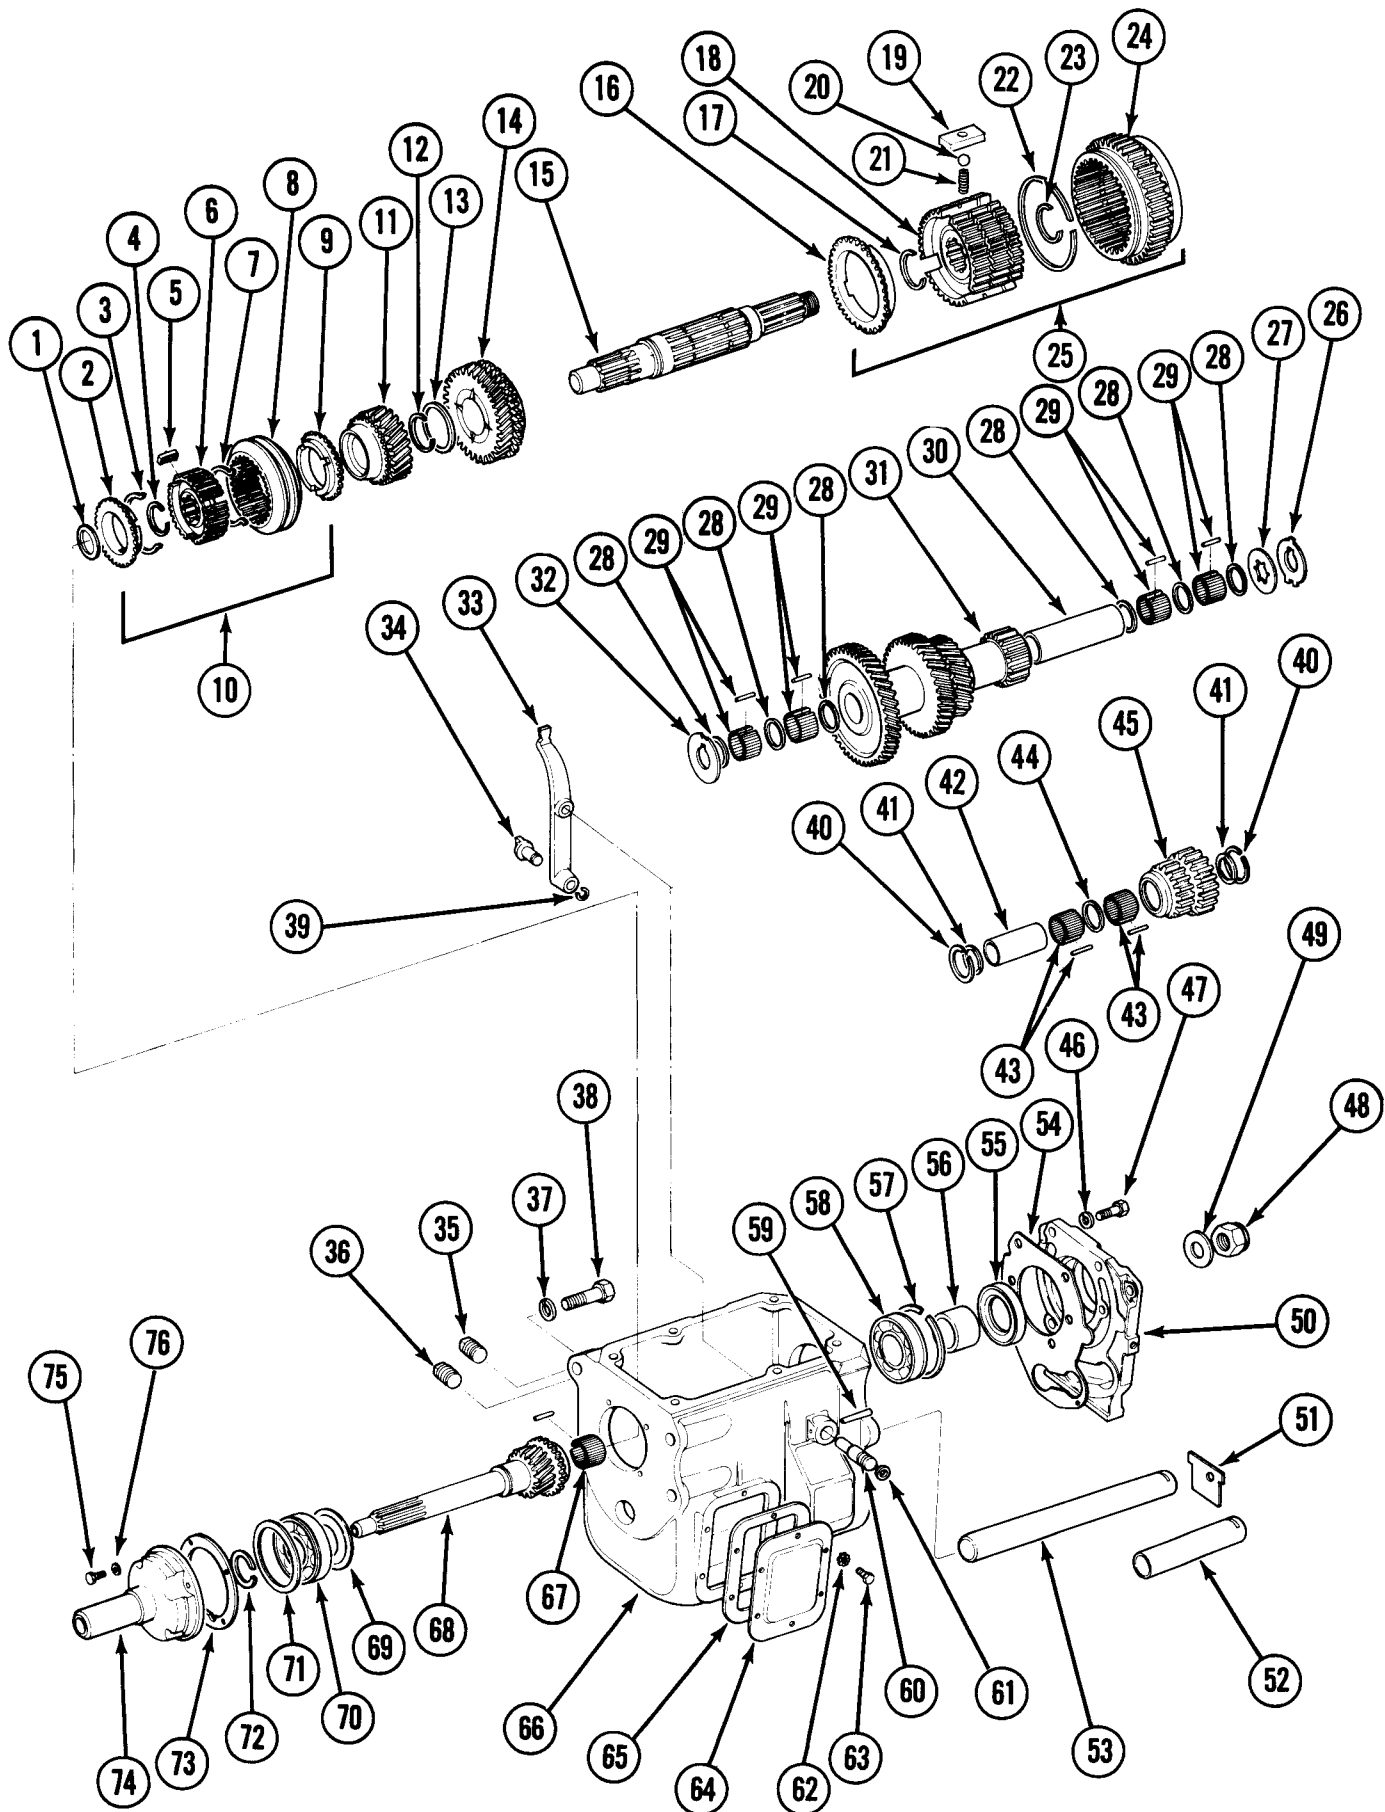

Fig. 6-35 Model T-18A Transmission
- (1) Separate transmission and transfer case.
- (2) Remove shift control housing.
- (3) Move Third-Fourth gear hub forward and First-Second gear hub rearward and remove locknut, flat washer, transfer case drive gear and spacer.
- (4) Move Third-Fourth gear hub to Neutral position.
- (5) Remove transmission-to-transfer case adapter (if equipped). Remove oil seal from adapter. Replace seal if damaged.
(6) Remove Reverse shifting arm, shifting arm shoe, pivot pin, and pivot. Remove O-ring from pivot and discard.
- (7) Move First-Second gear hub to Neutral position.
- (8) Punch alignment marks in front bearing cap and case for assembly reference and remove cap and gasket.
- (9) Remove lockring from clutch shaft and snap ring from front bearing (fig. 6-35).
(1) Scribe alignment marks on main shaft splines and clutch hubs for assembly reference.
(2) Remove pilot bearing spacer from front of main shaft (fig. 6-35).
(3) Remove Third-Fourth synchronizer snap ring and remove Third-Fourth synchronizer assembly and Third gear (fig. 6-35).